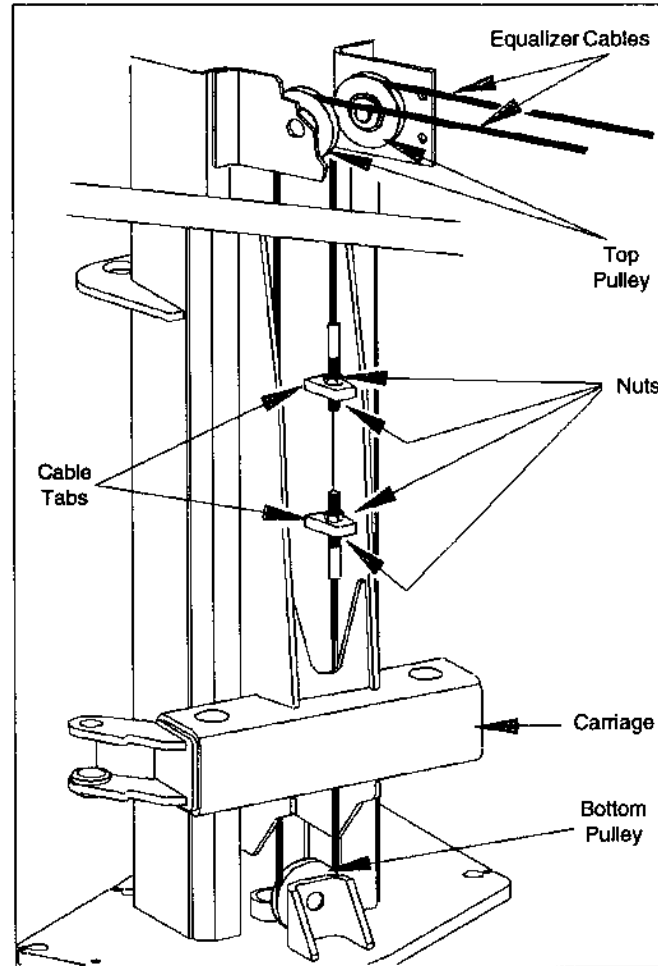

Figure 12 - Routing the Equalizer Cables
1. Insert one end of the cable up through the carriage. Use the hole that is directly below the lower cable tab. Thread a nut about 2 inches onto the cable end. Refer to Figure 12.